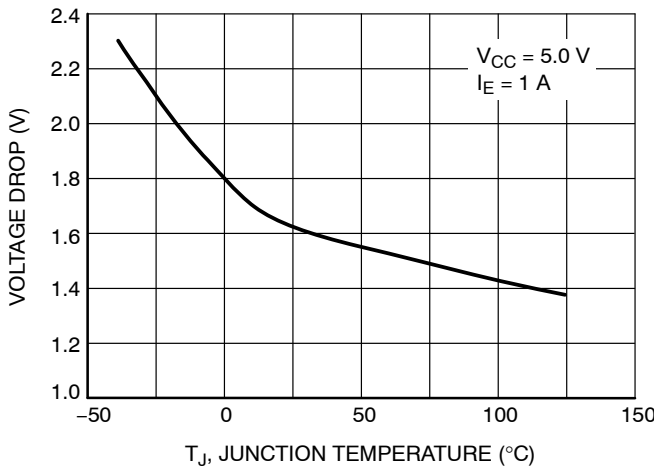

Figure 7. Emitter Follower Configuration Output Darlington Switch Voltage Drop vs. Temperature
8. V_{SWCE} – Darlington Switch Collector to Emitter Voltage Drop, refer to Figures 7, 8, 9 and 10.